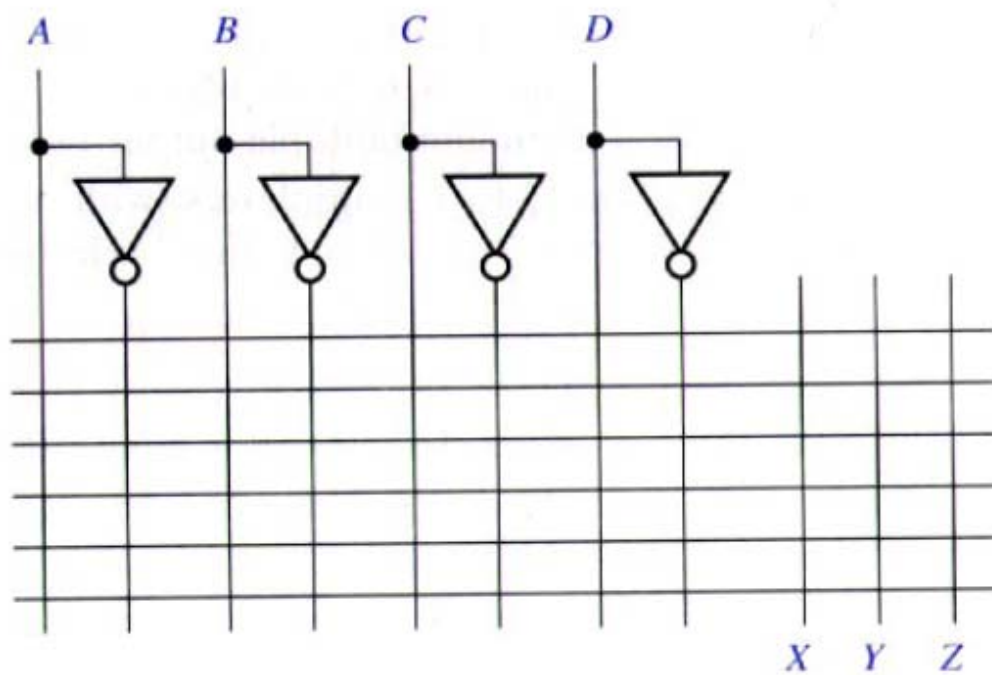

Figure 3. Blank PLA: program your functions (3.b)
- Now use figure 3 (or copy it, or make your own) to implement the three functions described below. If needed, draw more horizontal lines (21 pts).